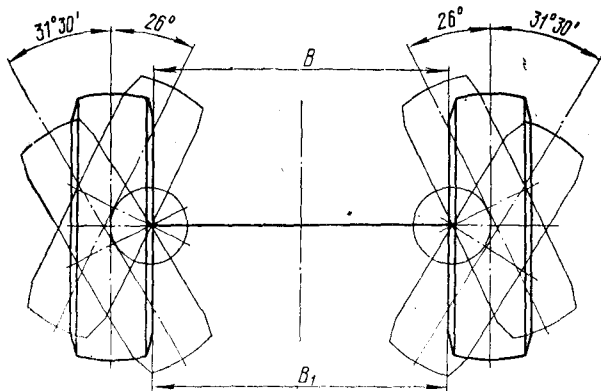

Fig. 102. Positions of Steerable Wheels
Adjusting the front wheel toe-in. For checking the toe-in of the front wheels, see that the tyres have been inflated to the rated pressure and measure distance B_1 and B (Fig. 102) across the wheel rims. For checking:
- using a measuring rule, check distance B_1 between the wheel rim beads in the rear section at the level of wheel centres and mark these points. Roll the truck so that these marks are in front and check distance B . In front the distance must be 1–3 mm less than that at the rear. If the difference of the distance measured between B_1 and B is beyond the limits, readjust by changing the length of the lateral steering rod after slackening the bolts on the lateral steering rod ends. On readjusting the toe-in, tighten the rod end fastening bolts and check angles of turn of the wheels; the data of these angles are given in Fig. 102. Angles of turn are limited by thrust bolts.